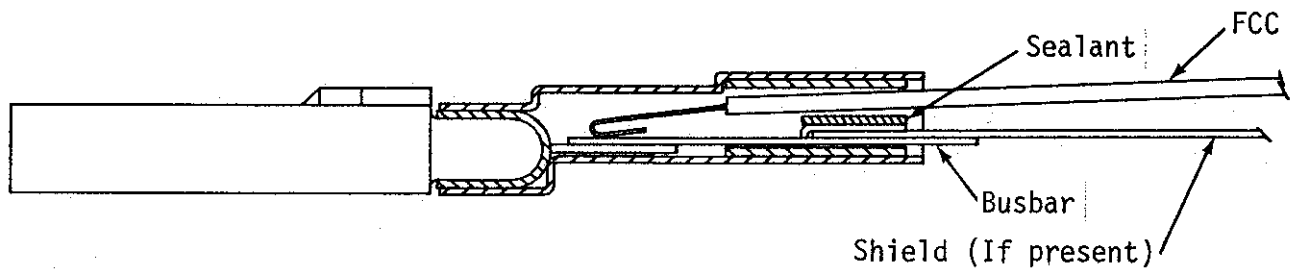

Figure 11. CTA-0055 Sealant Inserted Between FCC and Shield/Busbar
3. Insert a strip of meltable sealant (P/N CTA-0055) between the FCC and the busbar (Figure 11).